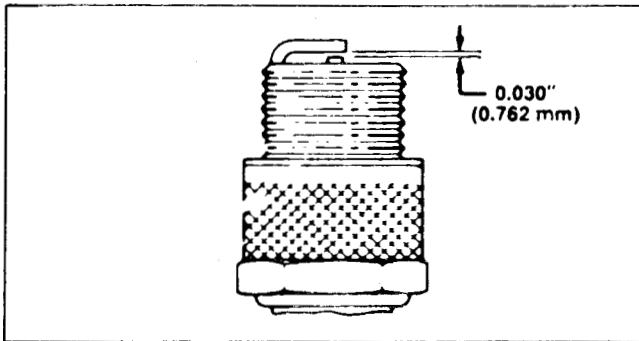

Figure 3
3. Set the air gap at .0030" (0.030"). See Figure 3. Install correctly gapped spark plug and gasket seal. Tighten the plug firmly.